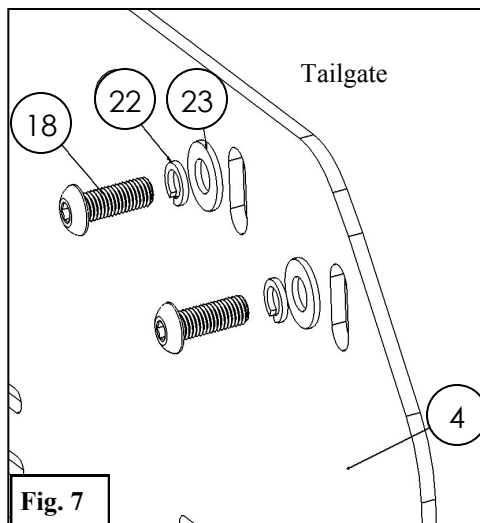

Fig. 7
8. Install the Tailgate Mount (4) using the supplied M8 Hardware. See Figure 7.